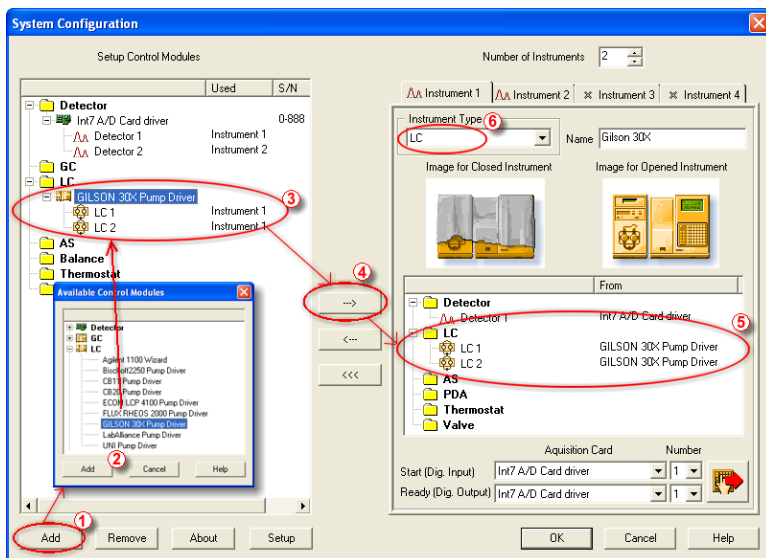

Fig 7: System Configuration
- In the **System Configuration** dialog press the **Add** ① button (**Fig 7** on pg 8.) to invoke the **Available Control Modules** dialog.